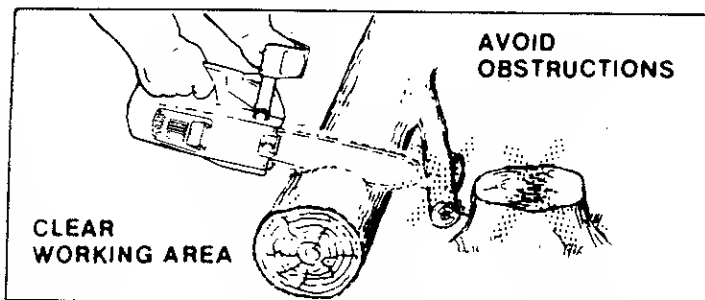

Figure 2
3. Keep the working area free from obstructions such as other trees, branches, rocks, fences, stumps, etc. Figure 2. Eliminate or avoid any obstruction that your saw chain could hit while you are cutting through a particular log or branch.